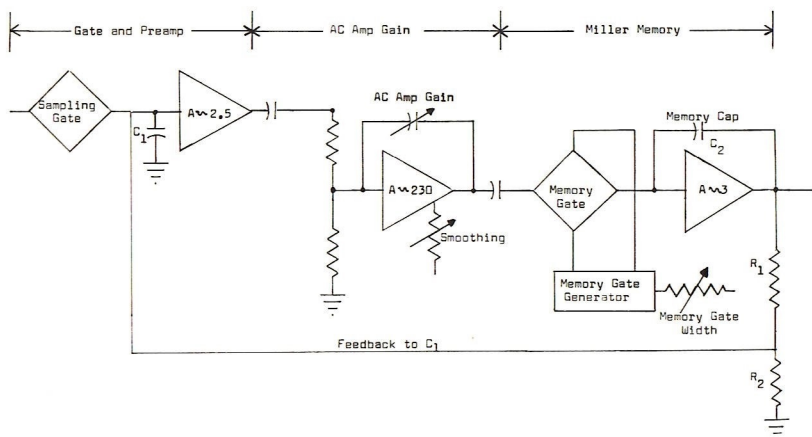

Figure 3. Tektronix slide-back, feed-back sampling system.
Refer to Figure 3 and assume a one-volt step signal applied to the input of this system. The system we may assume has a sampling efficiency of 25%. The sampling capacitance would therefore charge to 0.25 volts on the first sample. Between samples we could amplify the charge with an amplifier having a gain of four and feed back this one-volt signal level to the sampling capacitance for a period of time that permits full transfer of the charge. We then end up with the required one volt across the sampling capacitance. Now we can change the number of samples per division and the transient response of the observed waveform
Let's refer again to Figure 3 and review some of the primary objectives here which are: (1) charge C_1 to the amplitude of the input signal as much as possible during the useable period of the strobe pulse to increase sampling efficiency, (2) feed back an amplified version of this signal between samples to charge C_1 to the full level of the input signal, (3) simultaneously charge C_2 to a value proportional to the input signal level and permit C_2 to retain this charge long enough for us to observe low rep-rate signals.
A cursory analysis of the system as shown in Figure 3 reveals that the following controls all have a direct effect on dot transient response: